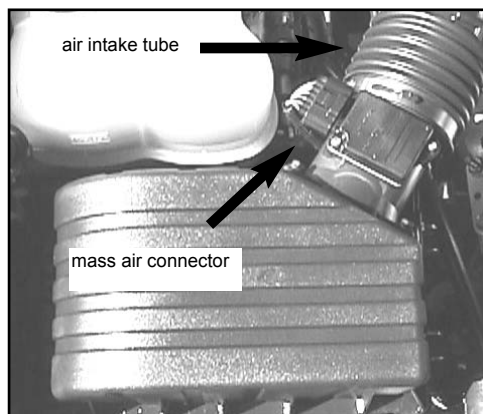

Fig. 1
1. Carefully disconnect the electrical connector for the Mass Air sensor. (See Fig 1)
2. Unfasten the hose clamp on the air intake tube and disconnect the tube from the Mass Air sensor. (See Fig 1)